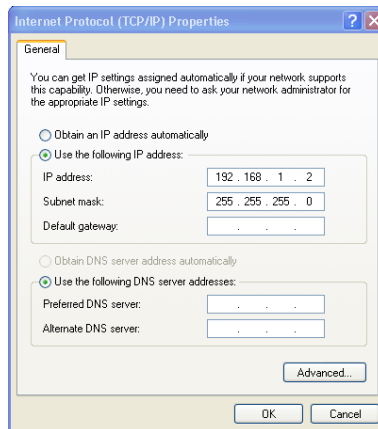

Figure 5: Internet Protocol (TCP/IP) Properties Window
7. Select Use the following IP Address, and fill in the details as shown in Figure 5.